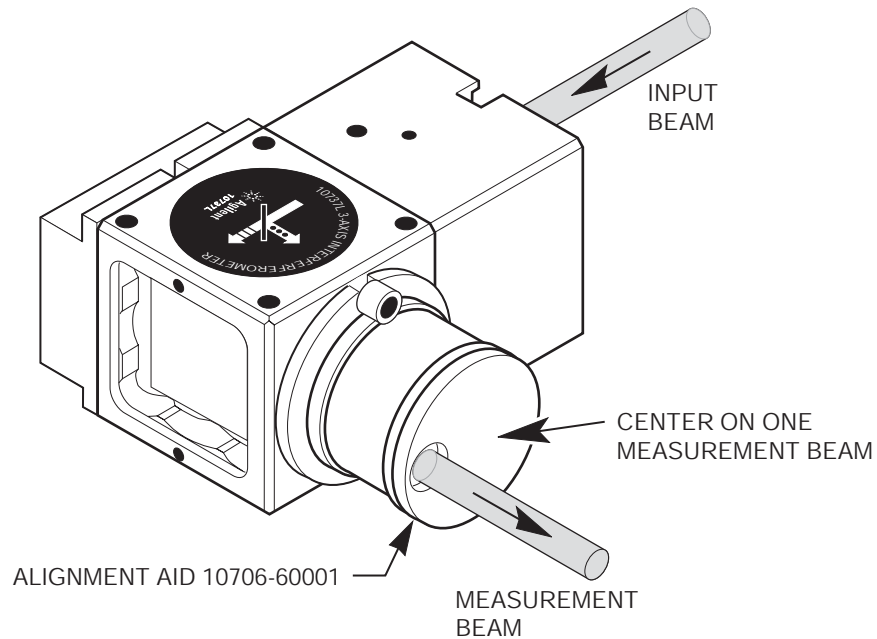

Figure 201 Agilent 10737L Compact Three-Axis Interferometer with Agilent 10706-60001 Alignment Aid
- 3 Set the alignment aid (Agilent Part Number 10706-60001) on the interferometer's Measurement beam aperture as shown in Figure 201.